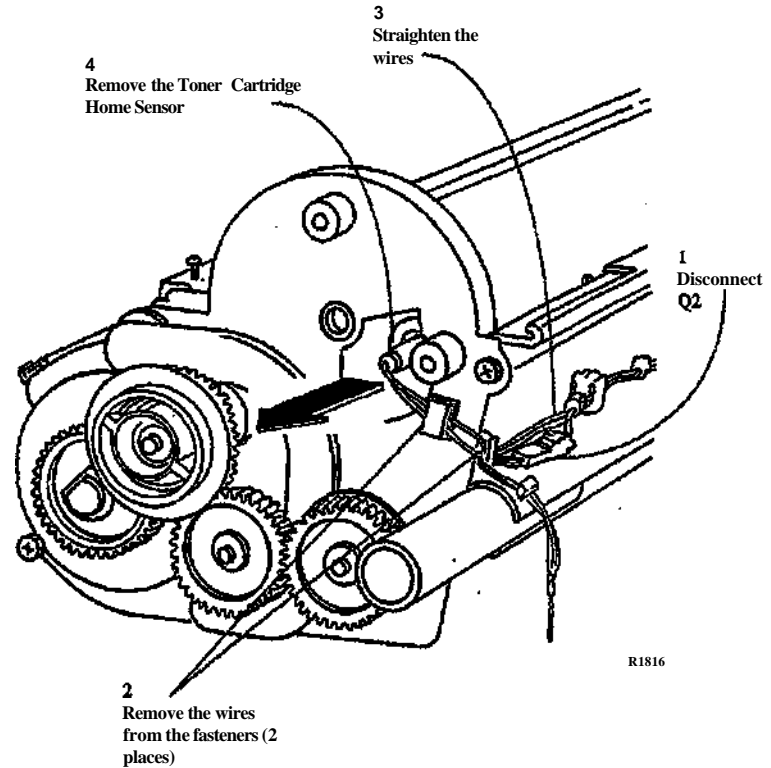

Figure 1. Removing the Toner Cartridge Home Sensor
3. (Figure 1): Remove the Toner Cartridge Home Sensor.